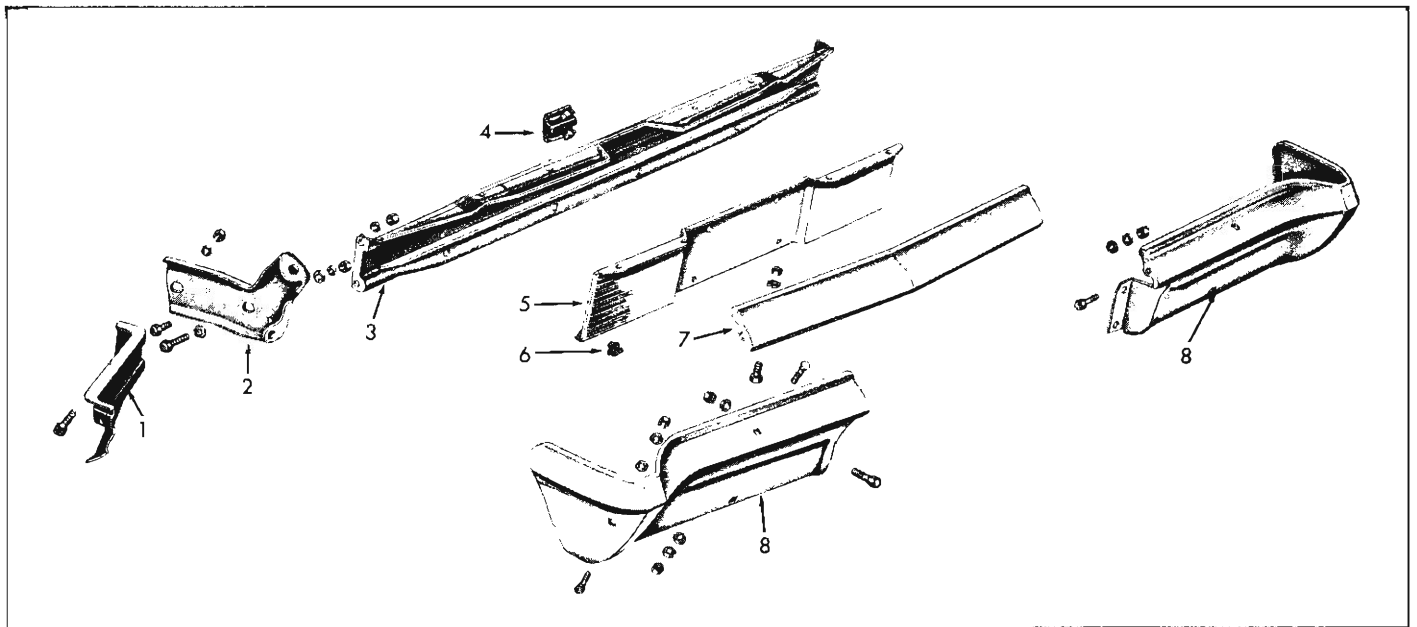

Fig. 98—Exploded View of Rear Bumper
### Disassembly (fig. 98)
4. Separate three sections of face bar by removing bolts shown in Figure 98.